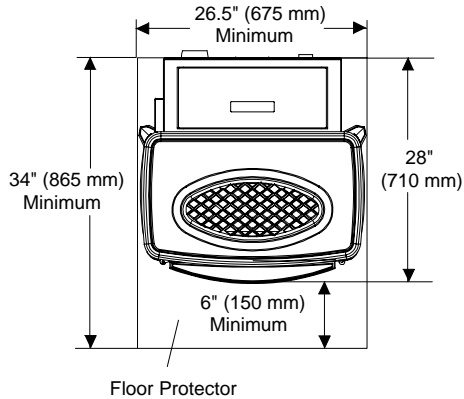

Figure 1. **KOZI** Cast Iron Stove noncombustible floor protector.
6. This heater requires a floor protector beneath the heater and extending a minimum of 6 inches (150mm) in front of the heater. This is to catch any spillage which may occur during opening and closing of the doors. See figure 1 for more information.